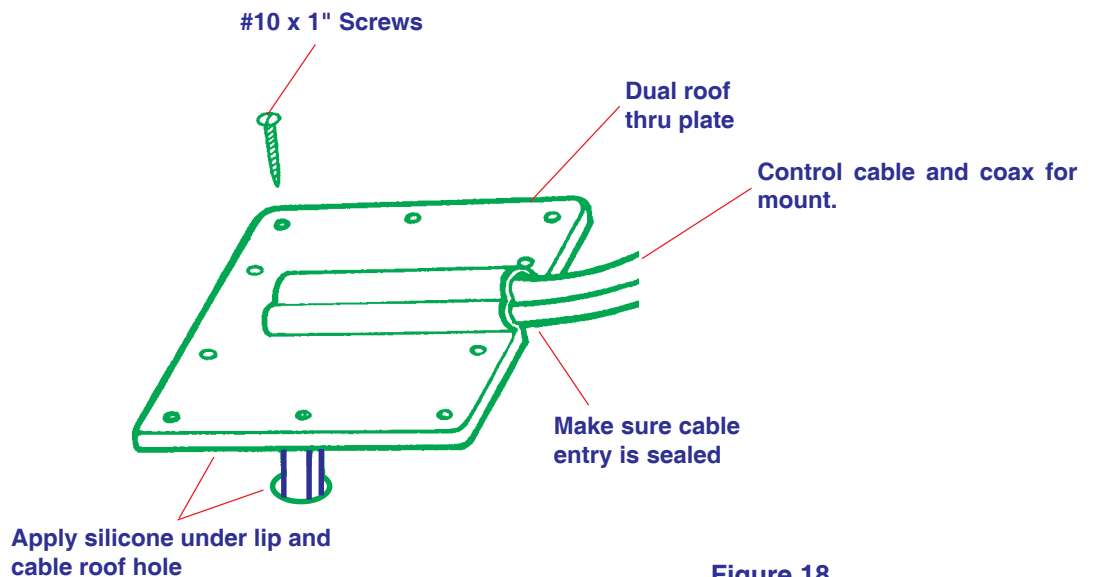

Figure 18
3. Apply silicone sealant under lip of roof-thru plate and where cable enters roof. See Figure 18.
4. Attach plate to roof with screws provided. See Figure 18.